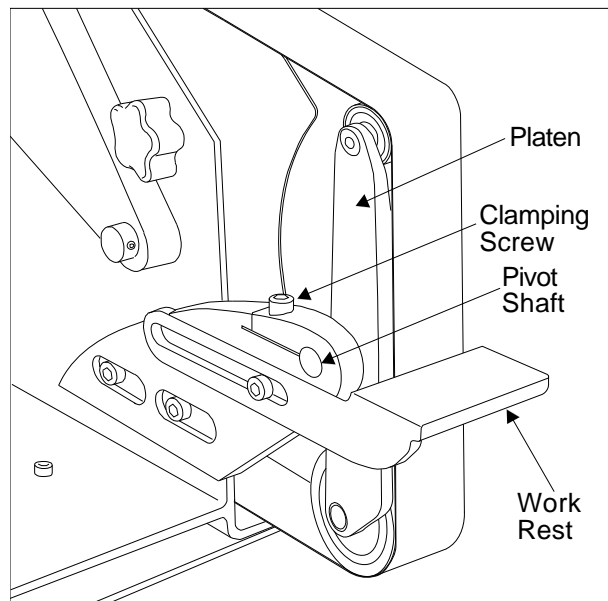

Figure 6: Installation of Platen
1. Refer to Figure 6. Lower the tension lever to release belt tension.